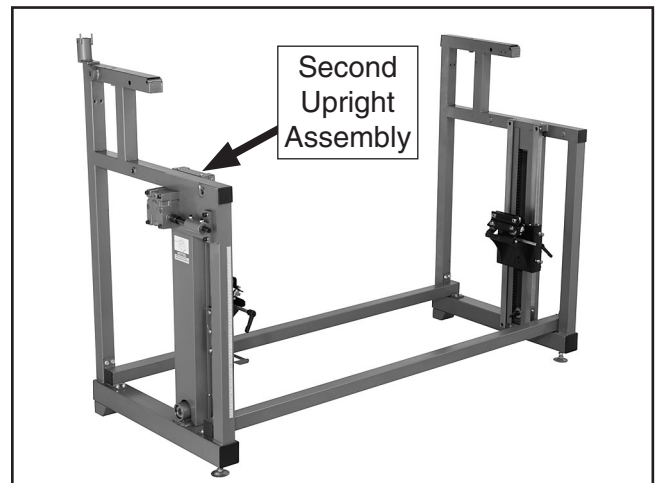

Figure 13. Second upright assembly.
3. Attach the other upright to the two cross braces with (8) $\frac{5}{16}$ -18 x $\frac{1}{2}$ flange bolts, as shown in **Figure 13**. Have an assistant stabilize the upright assembly during fastening. Do not yet fully tighten the bolts.